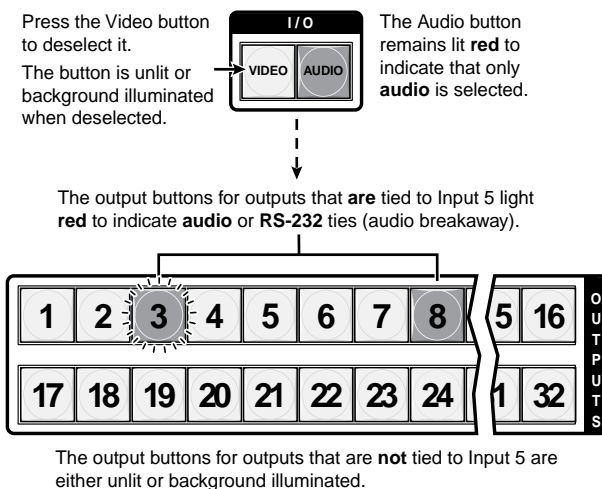

Figure 3-25 — Deselect video to view audio ties only
5. Press and release the Video button to deselect video (figure 3-25).